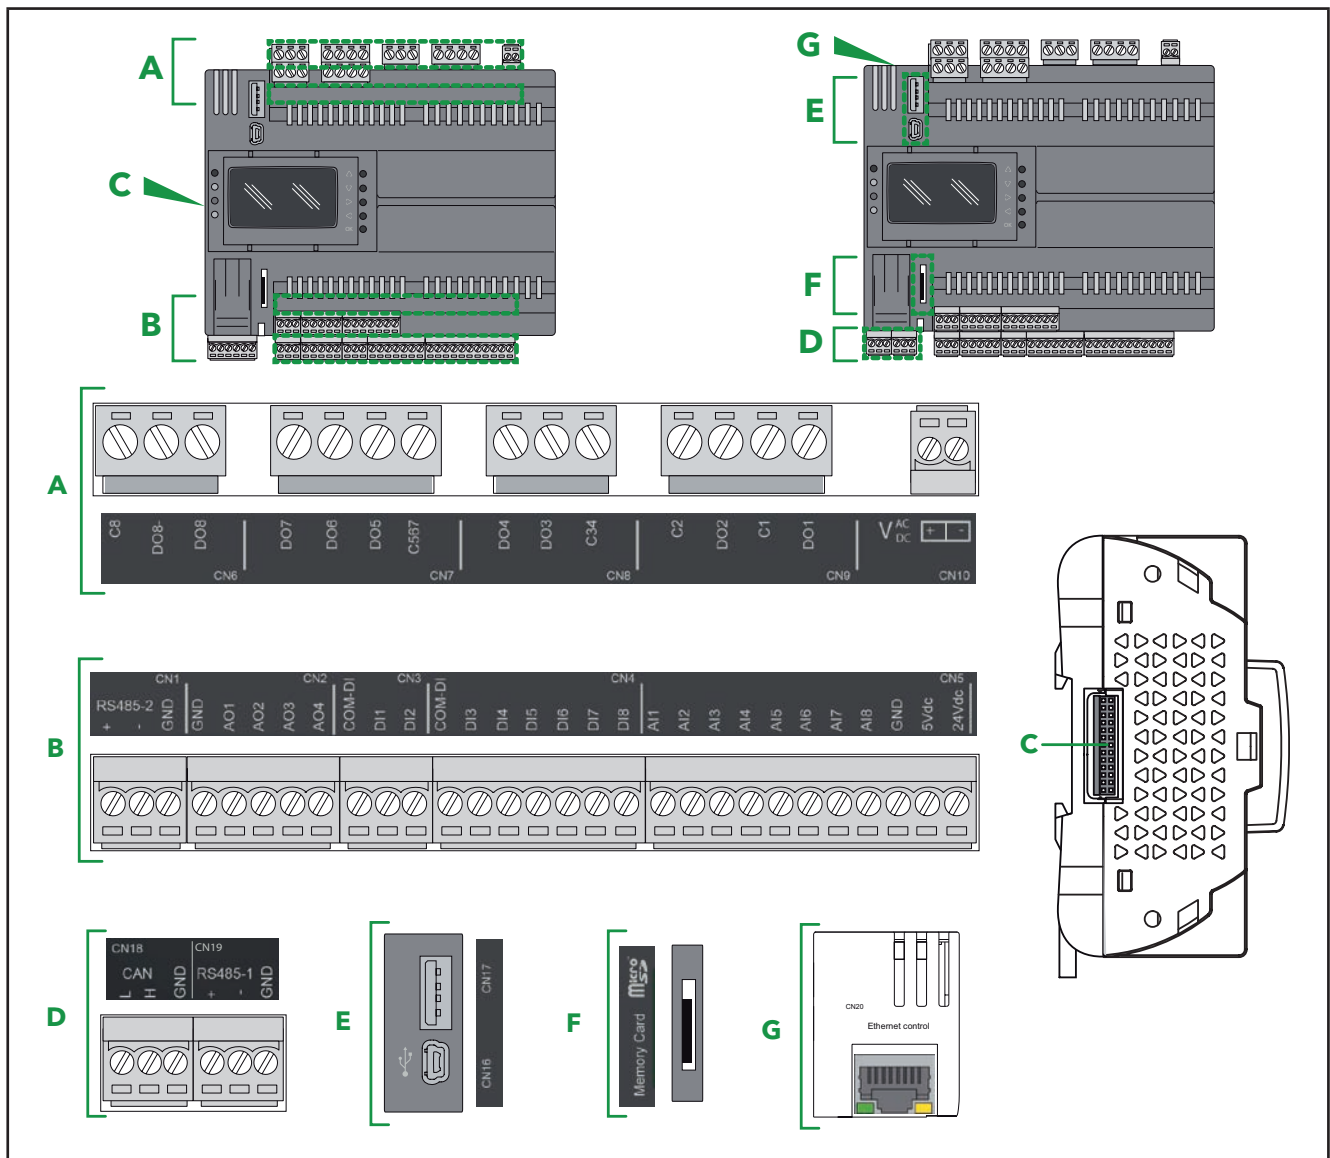
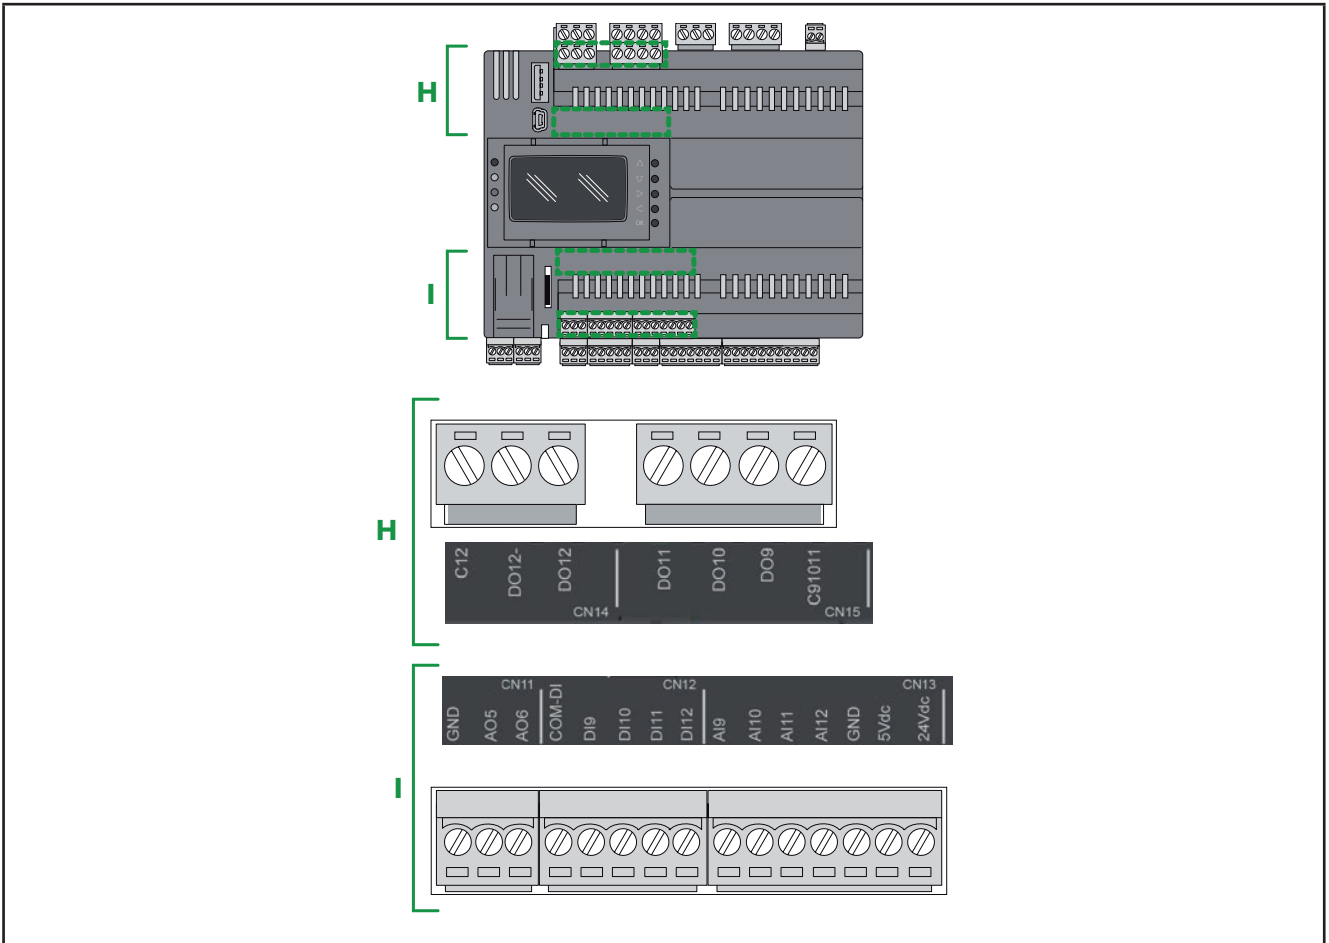

Fig. 22. EWCM 9000 PRO (HF) base board connectors
Fig. 23. EWCM 9000 PRO (HF) upper board connectors
The labels of the I/O and ports are marked on the casing of the EWCM 9000 PRO (HF) (see Fig. 22 on page 40 and Fig. 23 on page 41).